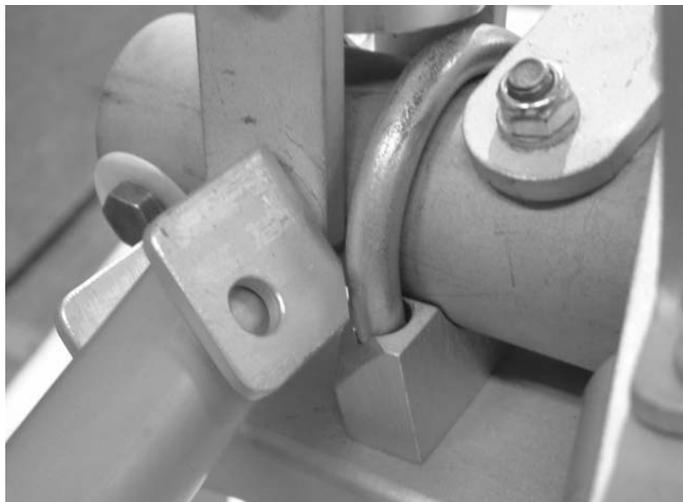

Figure 80; side member attachment bracket and undercarriage leg outer clamp, starboard side.
- e) The front outer edge of the outer U-clamp spacer piece may need filing to clear the aluminium U-bracket holding the lower fuselage side member, Figure 80.